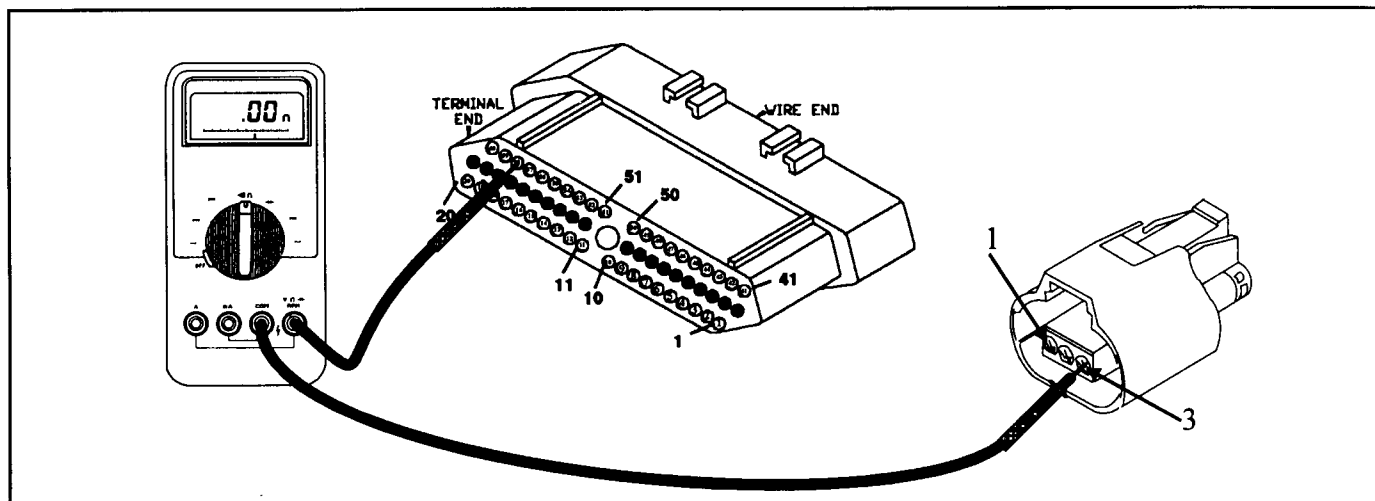

Figure 83
- Perform a continuity check from terminal 3 in the Speed Proportional Steering Module connector to terminal 58 in the TCM connector (See Figure 83). If continuity is seen, go to the next step. If an open is seen repair or replace the wire.